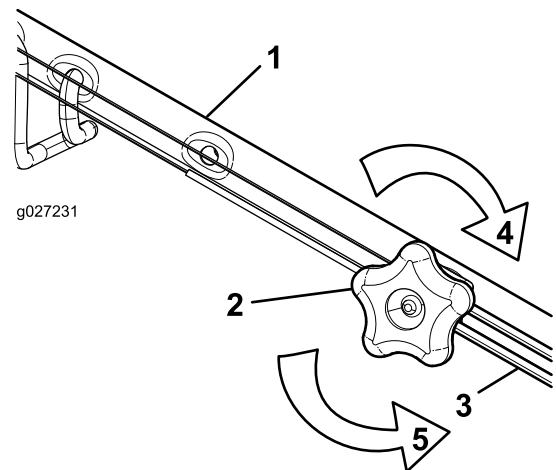

Figure 42
1. Turn the adjustment knob counterclockwise to loosen the cable adjustment (Figure 42).
2. Adjust the tension on the cable (Figure 42) by pulling it back or pushing it forward and holding that position.